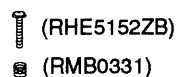

Fig. 2
- Please replace both azimuth adjustment screws (RHE5152ZB) and springs (RMB0331) simultaneously when readjusting the head azimuth. (shown in Fig. 2)